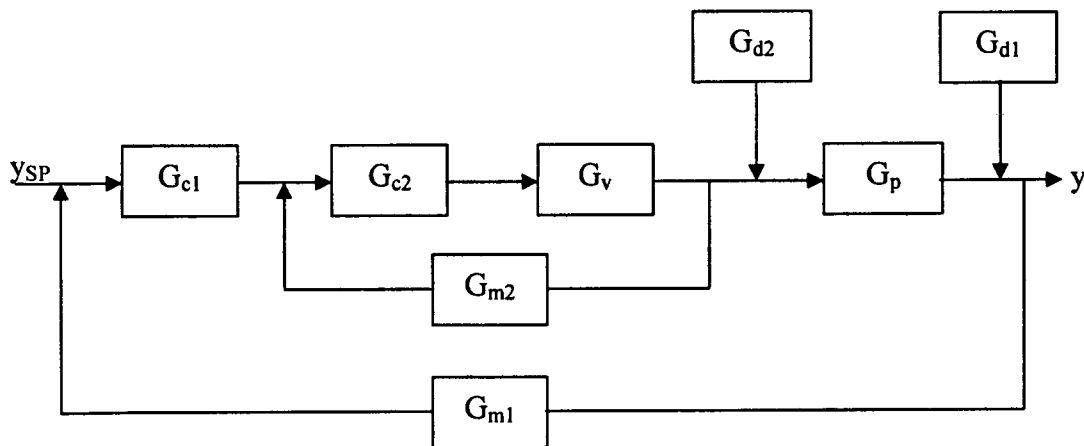

Figure 3. Cascade block diagram.
- iii) Consider the cascade system illustrated in Figure 3. The transfer functions are given by: